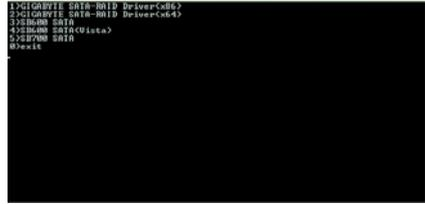

Figure 2
Step 2: When the controller menu (Figure 2) appears, remove the startup disk and insert the blank formatted disk. Select the controller driver by pressing the corresponding letter from the menu. For example, from the menu in Figure 2, to install Windows XP to your RAID/AHCI hard drives, select **(5) SB700 SATA** for the AMD SB700 SATA controller. Your system will then automatically zip and transfer this driver file to the floppy disk. Press <0> to exit when finished.
Use an alternative system and insert the motherboard driver disk. From your optical drive folder, double click the **MENU.exe** file in the **BootDrv** folder (Figure 3). A command prompt window will open similar to that in Figure 2.